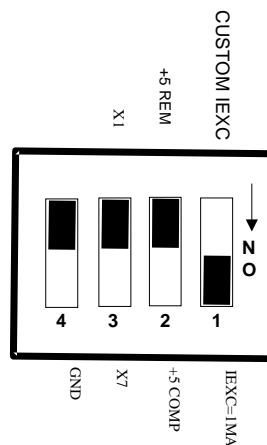

Figure 4-2. Second Stage Gain Switch (#3 of S2)
Switch #3 on the S2 DIP switch block (Figure 4-2) is labeled X1 and X7. Setting this switch down (ON) will amplify the output of the first stage amplifier by 7. The factory default position (up) has a gain of 1 (unity).